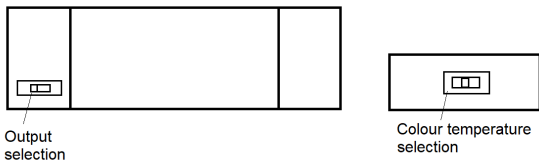

Fig. 3
- Select the desired driver output and colour temperature (see Fig. 3)